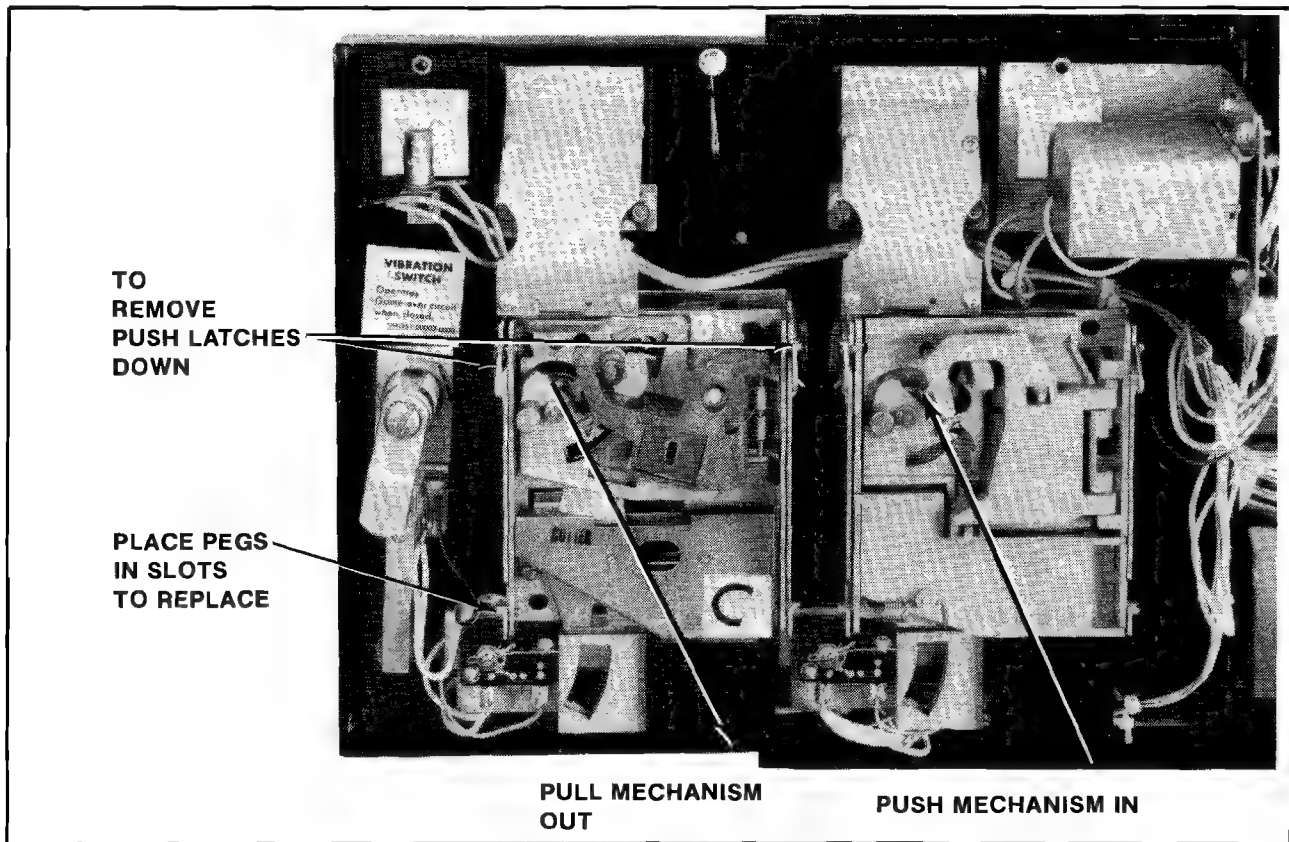

Figure 27 Removing and replacing coin acceptors
3. Remove the coin acceptor mechanism as shown in Figure 27.
9. Reinstall the coin acceptor to the coin door. See Figure 27.
3. Remove the coin acceptor mechanism(s) as shown in Figure 27.
6. Reinstall the coin acceptor to the coin door. See Figure 27.